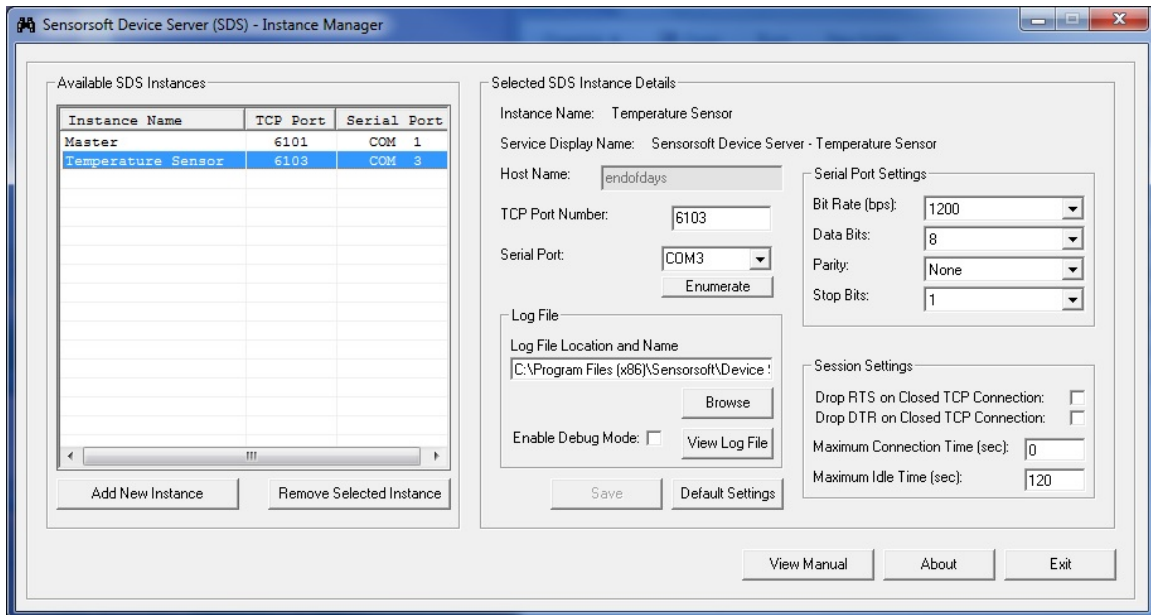

Figure 6
1. Select the instance you would like to remove by clicking on its instance name listed in the dialog box, “Available SDS Instances”, located on the left half of the SDS Instance Manager app as shown in Figure 6. In this example, we are going to remove the SDS instance, “Temperature Sensor”.